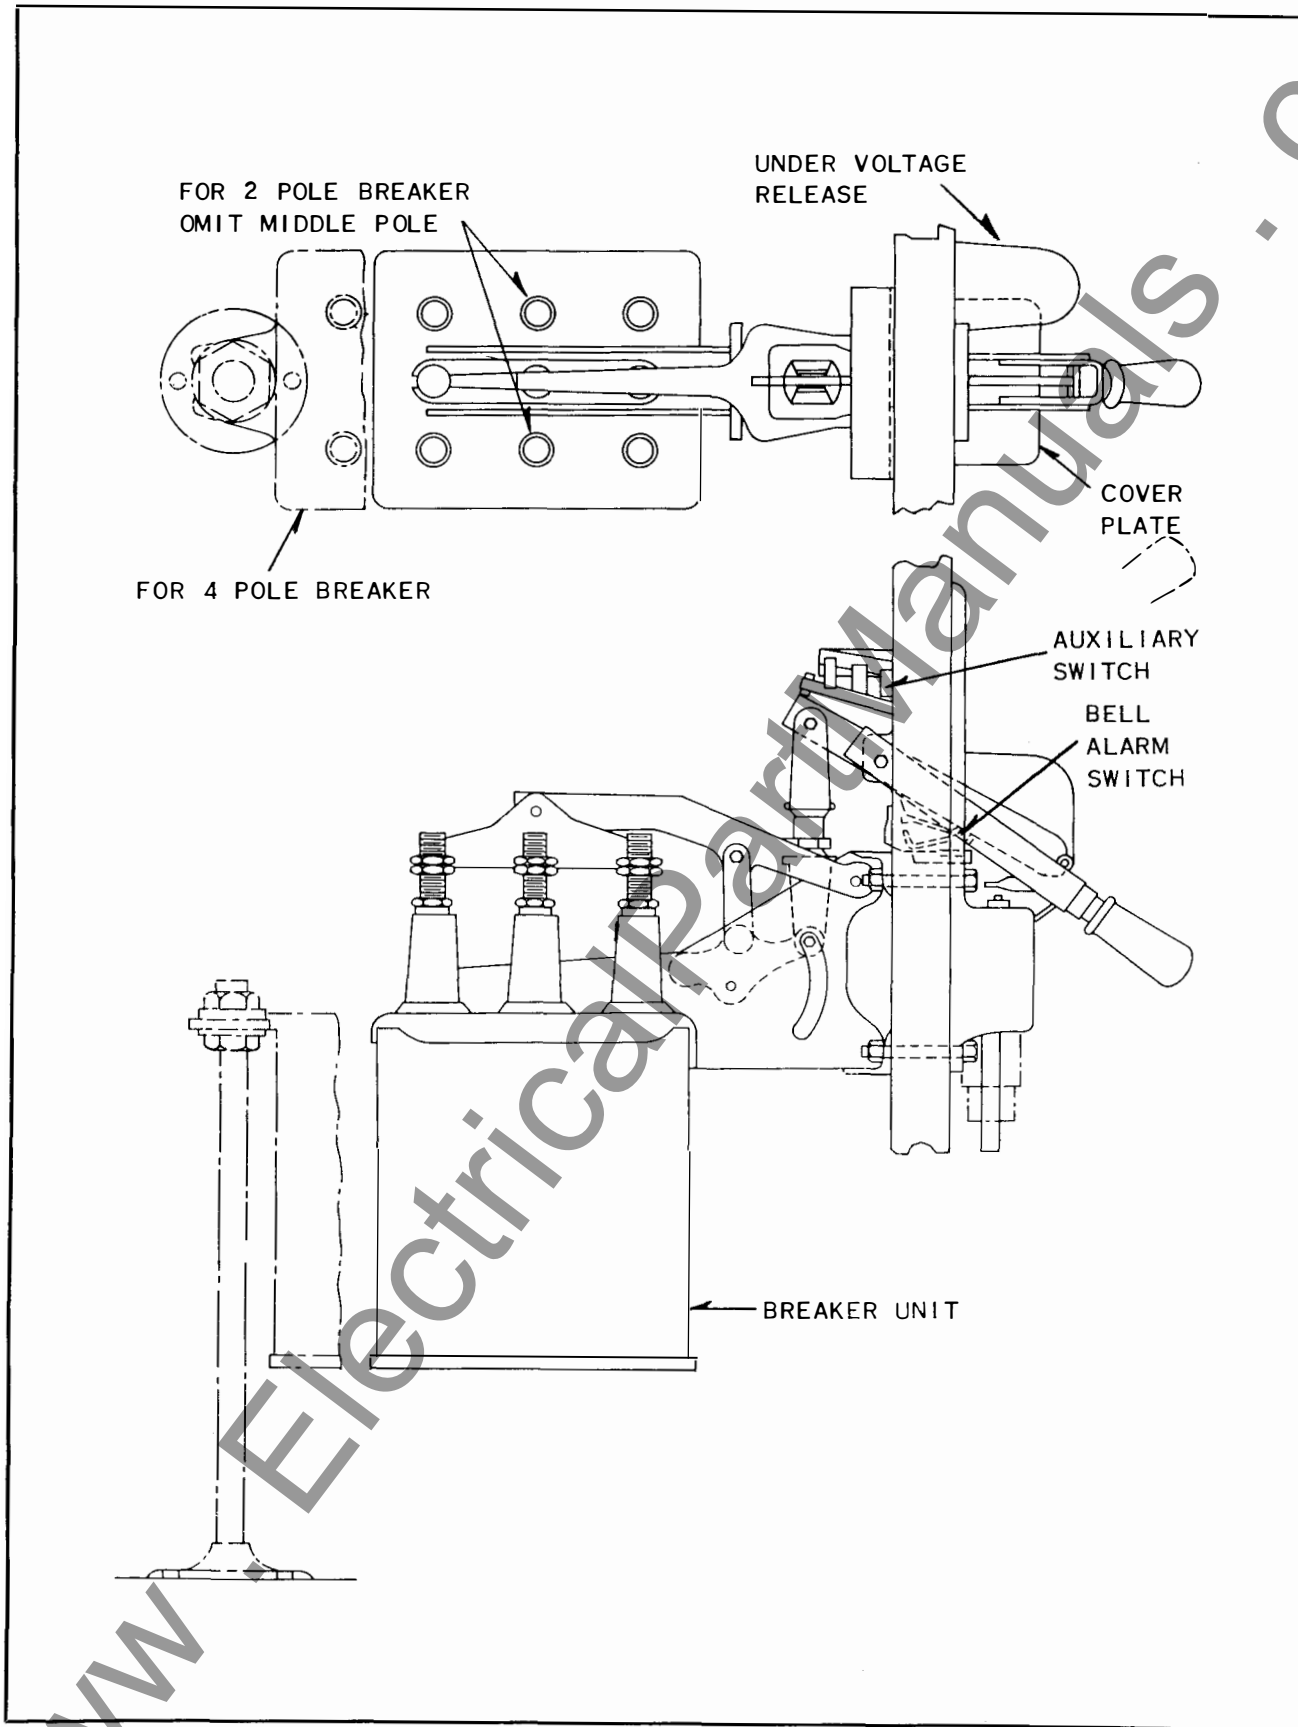

FIG. 6. Switchboard Mounting Assembly
**5.** If breaker unit is to be mounted in back of switchboard assemble with coverplate. (See Fig. 6)